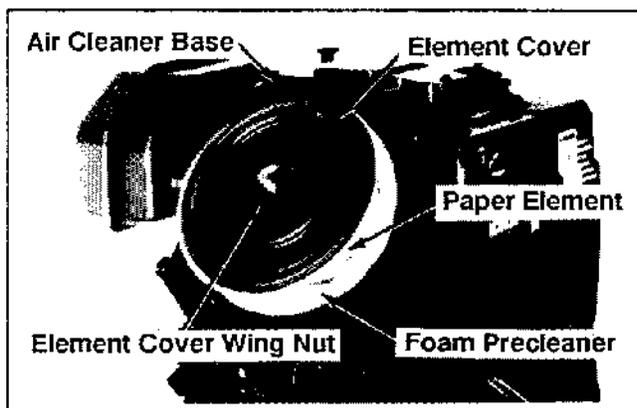

Figure 9-5. Removing Air Cleaner Elements.
2. Remove the wing nut, washer, element cover, element and precleaner. See figure 9-5.